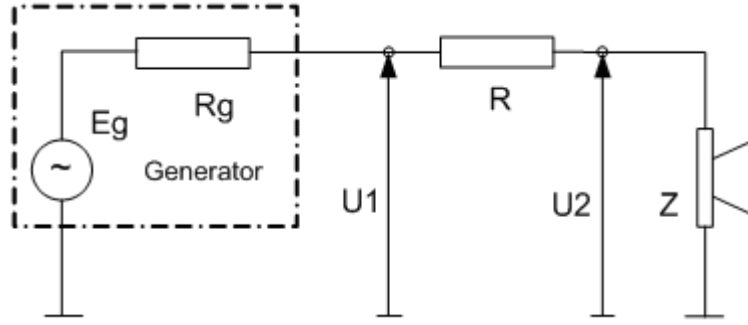

Figure 2.1 A circuit for loudspeaker impedance measurement
The measurement of the loudspeaker impedance is based on the system shown in Fig. 2.1. The reference resistor R is connected between the signal generator and a loudspeaker impedance Z .
1. The *LIMP* generates burst of sine signal with frequency f . We assume that this signal drives the generator shown in Fig. 2.1.
3. The magnitude and phase of signal u_1 and u_2 at frequency f are estimated by finding fundamental sinusoidal components U_1 and U_2 at generator frequency f . It is done by directly solving Fourier integral in *integration time* T . These fundamental harmonics are used in the equation (1) to calculate the impedance Z .
1. The *LIMP* generates the Pink PN as a discrete periodic sequence with a period equal to N . We assume that this sequence drives the generator shown in Fig. 2.1.
3. The DFT is applied to time series u_1 and u_2 to get spectral components $U_1(f)$ and $U_2(f)$. They are used in the equation (1) to calculate the impedance $Z(f)$.